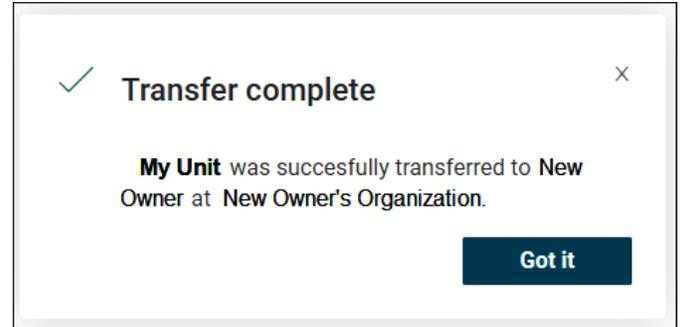

Figure 72. Completed Device Transfer
6. After transfer is complete, a pop-up window will indicate the unit has been transferred to the new owner at the desired organization. See **Figure 72**.